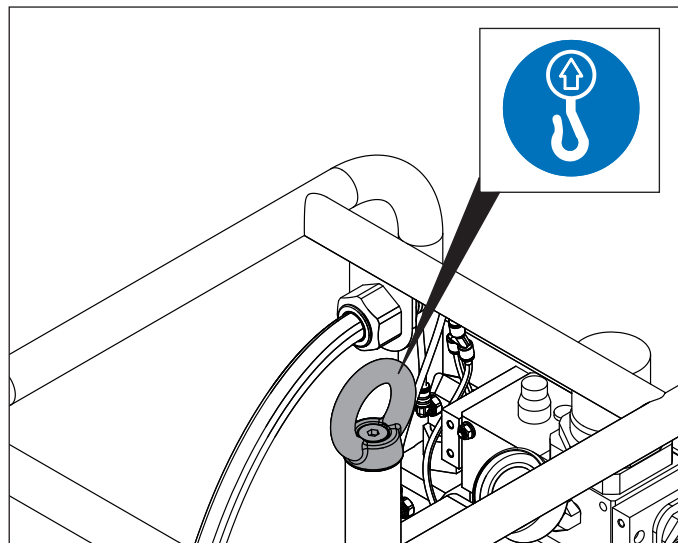

Figure 7: Pump Lifting Eye
- Lift the pump using only the built-in lifting eye. See Figure 7 for location. DO NOT use the roll cage, hydraulic reservoir or air motor housing as a lifting point.